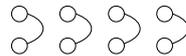

Figure 8B
- 3) If 2-digit numbers are desired (10-73), the jumpers should be connected as in figure 8B.
-First the person at terminal M10 calls number M17, where M = the module number in question = 1-7, as determined with the backboard jumpers, see figures 8B and 9B in section.